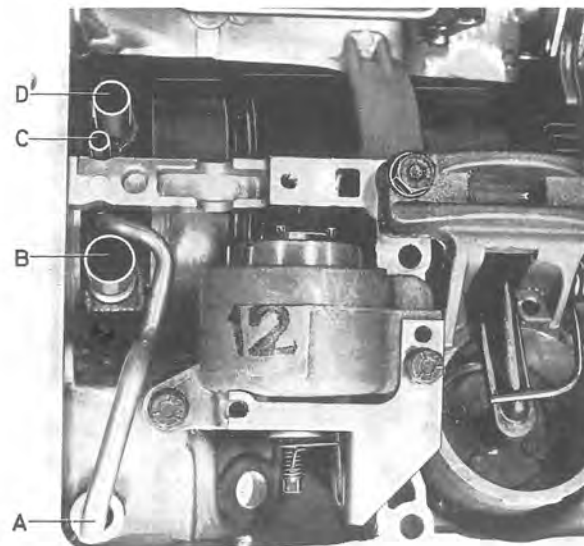

Fig. 4-116. Location of oil tubes, front of gearbox
24. Fit the oil tubes for the pump and converter on the pump body, see Fig. 4-116. Do not forget the O-ring for the pump inlet tube.